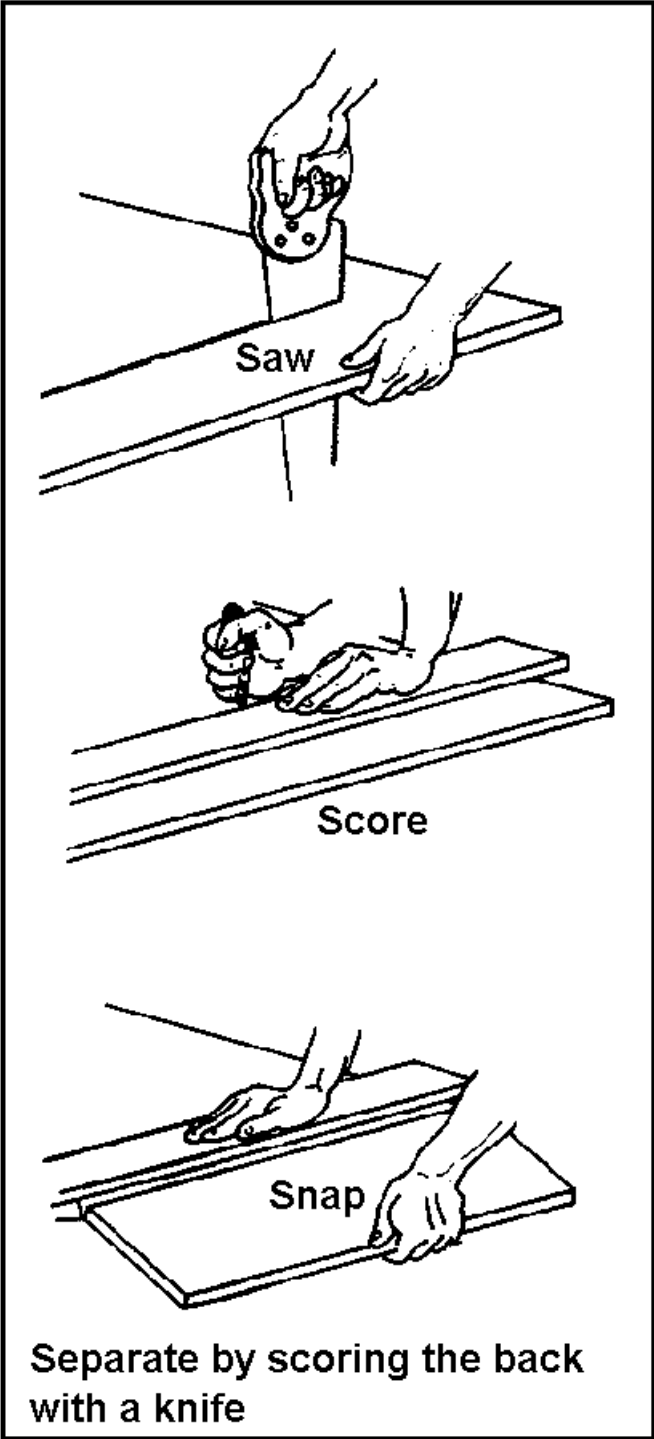

Figure 051-236-1177-1
- (1) Locate a section where the studs are 8 feet apart on center and where a full sheet of sheetrock can be laid horizontally.
- (2) Check the layout to ensure that no joints are above or below the door or window openings.
- (3) Attach all the sheetrock from the ceiling down to the floor, placing the first sheet in position so that the edge falls on the center of the stud.
- (4) Place the sheetrock snugly against the ceiling. Use a hand level to ensure that it is level.
- (5) Secure the sheetrock with nails 6 inches to 8 inches on center and 3/8 inch from the edge.
- (6) Attach succeeding sheets on the top half of the wall against the attached sheets. Ensure that the joints fall center on the studs and proper nail spacing is maintained.
- (7) Use a utility knife or sheetrock saw to cut the opening for the doors and windows (Figure 051-236-1177-1).